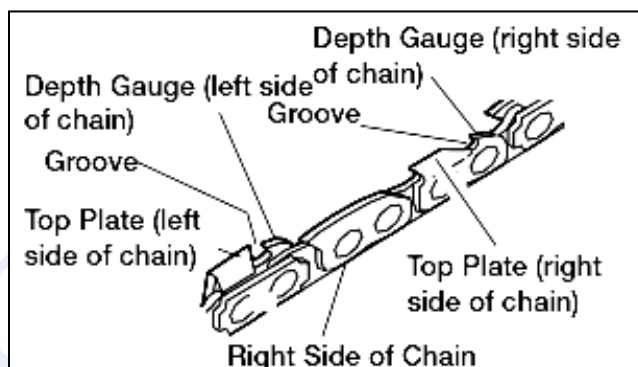

Figure 12
4. Hold file guide level. Make sure 30° mark on file guide is parallel to center of guide bar (see **Figure 12**). This will insure that you file cutters at 30° angle.
5. File from inside towards outside of cutter until sharp. Only file in this one direction (see **Figure 12**). (Note: Two or three strokes with file should sharpen cutter.)